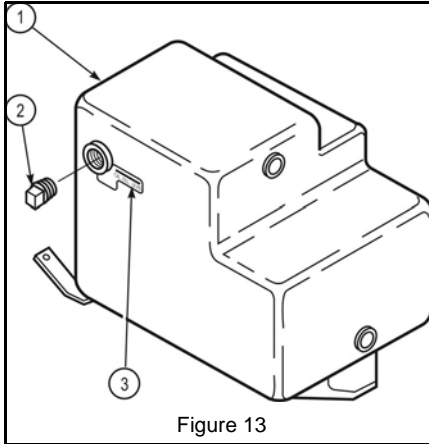

Figure 13
1. The hydraulic oil has been installed in the oil tank (1, Figure 13) at the factory, however, it is recommended that the oil level be checked before operation.
2. Check oil level by removing pipe plug (2, Figure 13). The oil level should be at the bottom edge of the hole, as indicated by decal (3, Figure 13). If it becomes necessary to add a small amount of oil to the tank, it is added in the pipe plug hole, possibly using a flexible spout funnel.